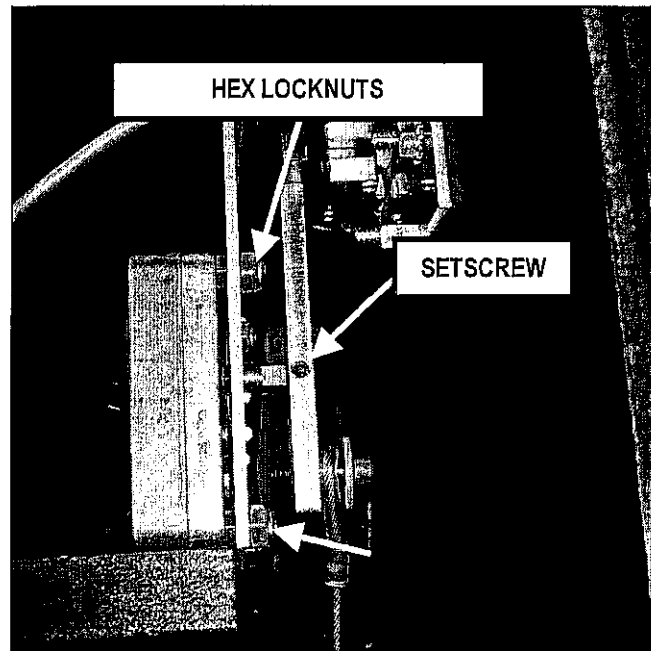

Figure 10 Reset Motor
3. Loosen the setscrew on the motor shaft cam and pull the cam and cable assembly from the end of the motor shaft. See Figure 10.